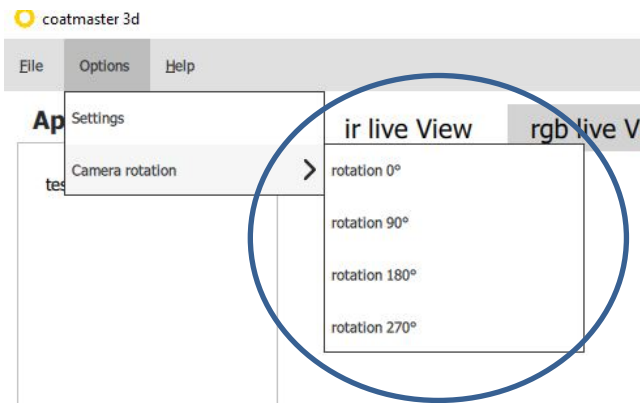
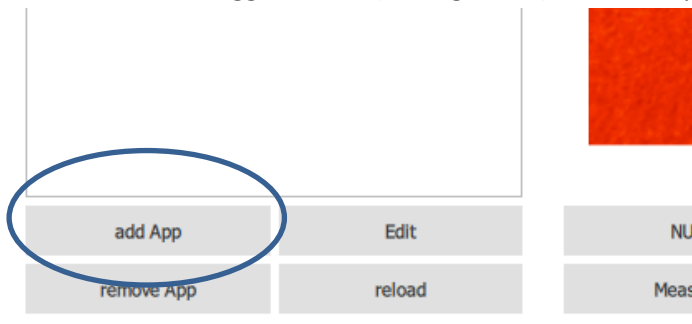

Figure 24 Camera rotation option
Figure 25 Enable the flash to adjust the lamps
1. Once the lamps and the head are adjusted, you can start a calibration by pressing the *add App* button (see Figure 24) in the main window (as in chapter 5.6.2 for the lamp adjustment).
3. At the bottom left corner of the main window, press the *add APP* button (see Figure 24). A subwindow appears where you must enter the application name and select a certain energy (see Figure 25). You can start with flash energy 1 and if it's not enough, it's possible to adapt it afterwards. When you press *OK* a confirmation window will appear to confirm that you want to trigger a flash (see Figure 25). Confirm by pressing the *OK* button.
- a. Increase the energy of the lamp flash by increasing the level (see Figure 25).